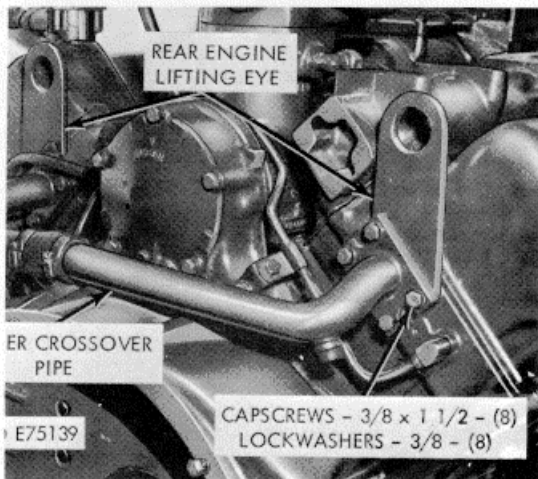

Figure 2-10. Water crossover pipe and engine lifting eyes--removal/installation.
(2) Remove manifolds and gaskets.
k. Water Crossover Pipe and Lifting Eyes (fig. 2-10).
(1) Remove eight capscrews and lockwashers securing crossover and lifting eyes to cylinder heads.
(2) Remove crossover, lifting eyes, and two gaskets.